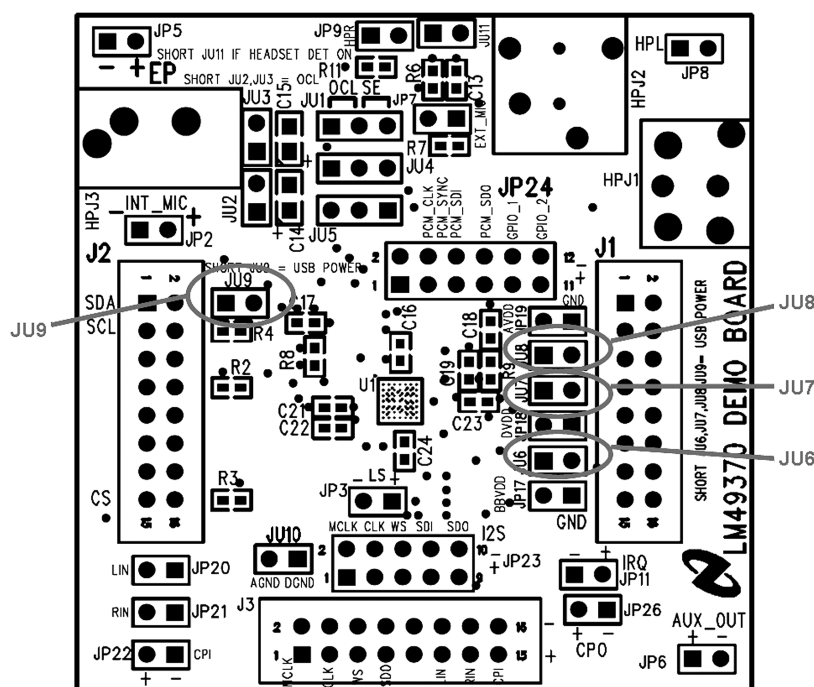

Figure 1. Powering up the LM49370 Demonstration Board Using USB Power
1. The LM49370 Demonstration Board can be powered up through the USB Subsystem Motherboard (Figure 1) or through an external power supply (Figure 2).